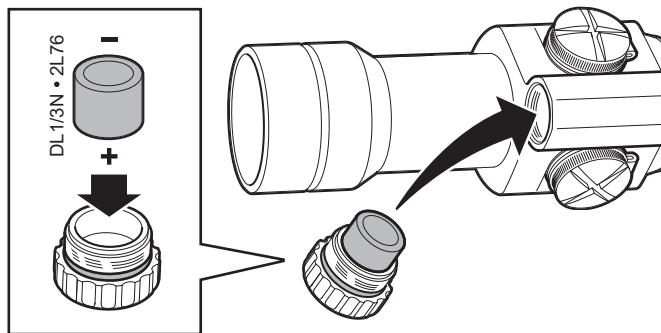

Fig. 2 → 2.1
- a Remove battery cap (2) by turning it counterclockwise.
- b Insert battery (3) with positive end (+) toward battery cap (2). See Fig 2.